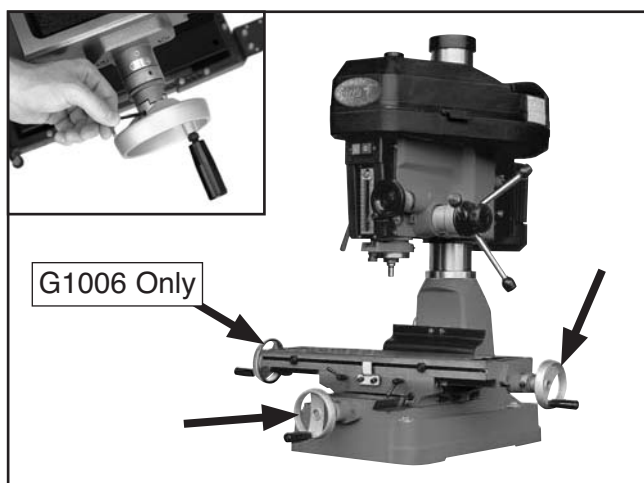

Figure 19. Handwheel installation.
3. Secure one handwheel in each of the locations shown by sliding the handwheel onto the leadscrew and tightening the set screw (**Figure 19**).